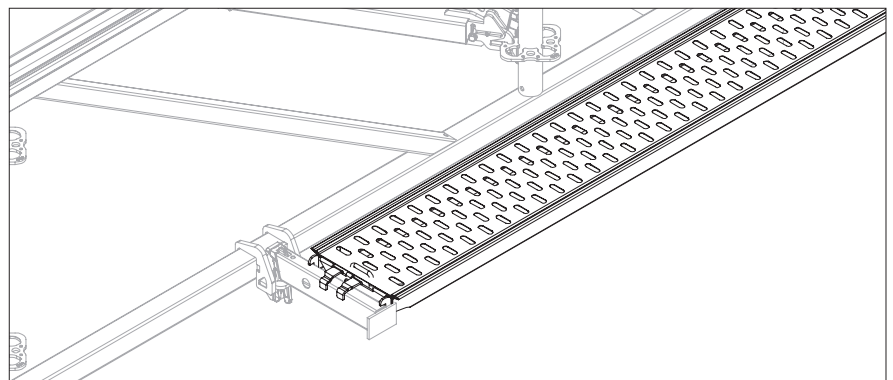

Fig. A13.04
4. Fit the Steel Decks UDG-2 (**58**). (Fig. A13.04)